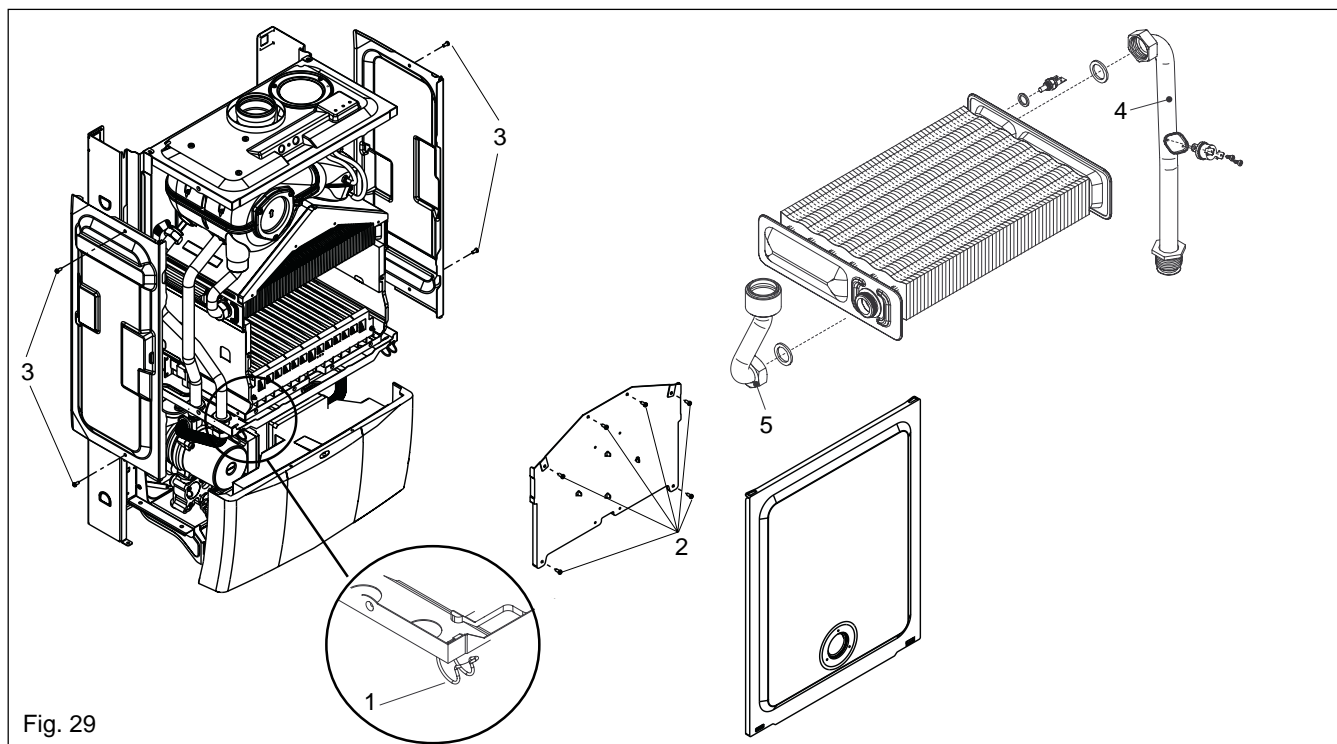

Fig. 29
Fig. 29: remove the air chamber side panels if necessary by unscrewing the securing screws (3). Disconnect the flow and return connections (4, 5) on the heat exchanger. The heat exchanger can now be withdrawn from the appliance. Replace in the reverse order. Ensure all seals are in good condition, taking care to ensure they are replaced correctly.